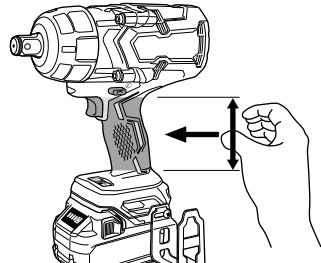

Fig. 1
4. Make sure to securely hold the tool during operation. Failure to do so can result in accidents or injuries. (Fig. 1)